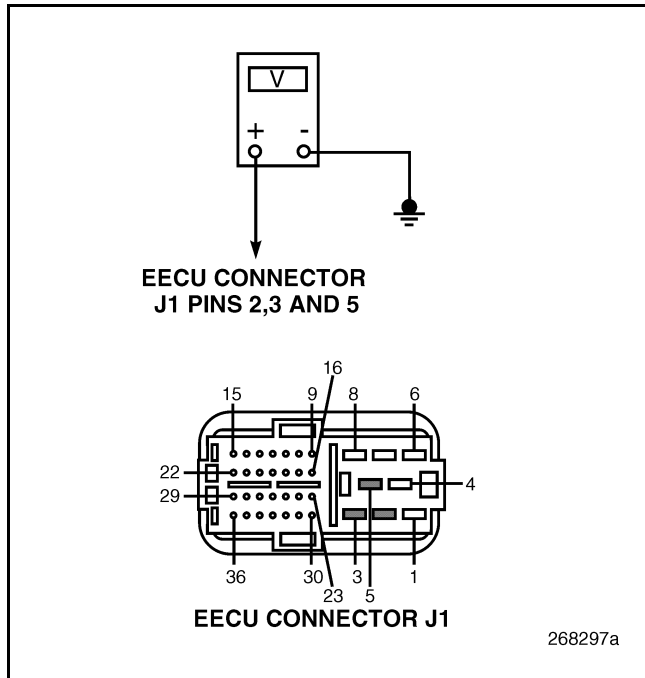

Figure 650
4. Measure the voltage between EECU connector J1 pins 2, 3 and 5 versus a good ground (see Figure 650).